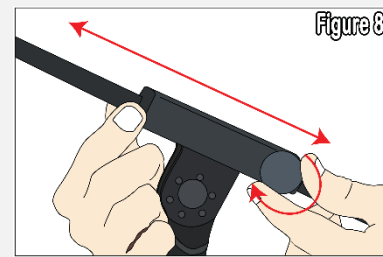

Figure 8
Step 6 – To adjust the angle of the boom microphone arm, loosen the knob as shown in **Figure 7**. To adjust the length of the arm, loosen the knob just below the arm as shown in **Figure 8**. Tighten these knobs to secure the angle and length you preferred.